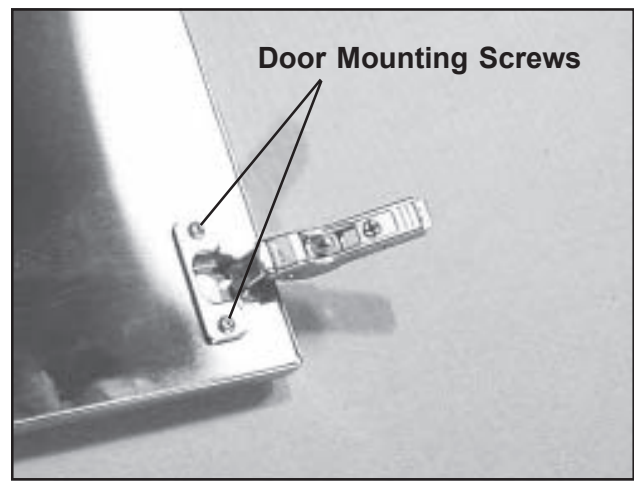

Figure 15. Hinge Mounted on Door
2. With a Phillips screwdriver, remove the two screws on each hinge and remove both hinges from the old door (Figure 15).